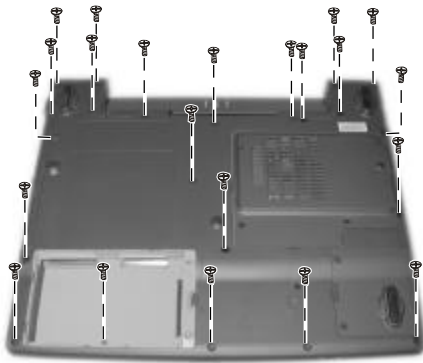

Figure 2-17 Remove twenty two screws
2. Remove the twenty two screws fastening the housing. (Figure 2-17)